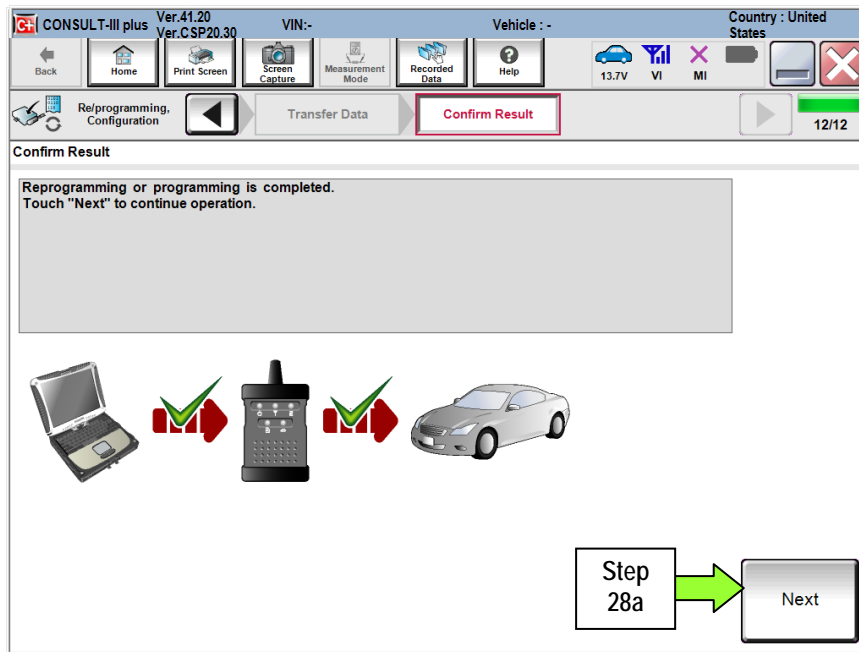

Figure 15
28. When the screen in Figure 15 displays, reprogramming is complete.